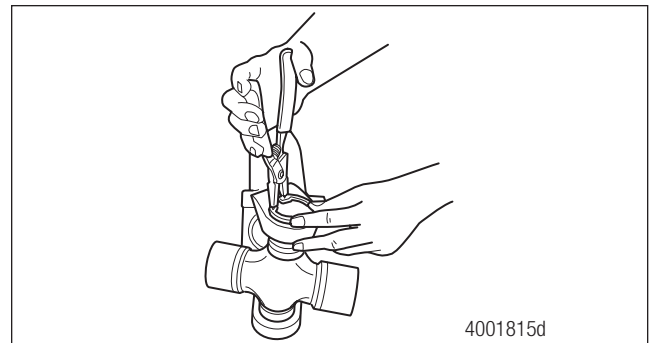

Figure 5.20
4. Use snap ring pliers to install the snap ring into the snap ring groove. Figure 5.20. Fully seat the snap ring.